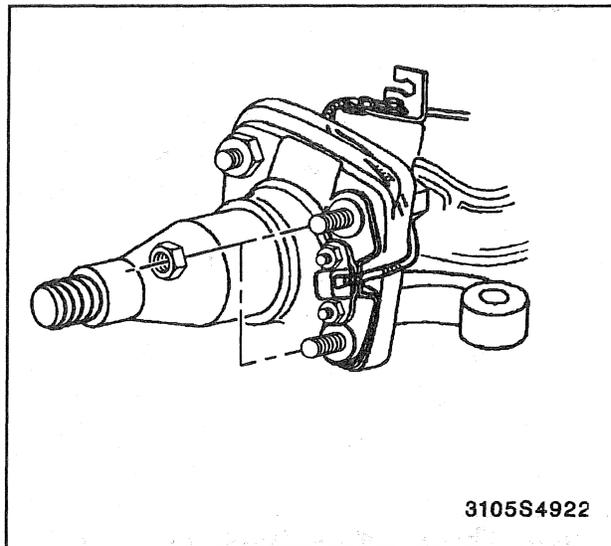

Figure 15—Front Wheel Speed Sensor (3500 HD)
**Remove or Disconnect (Figure 15)**
↔ Install or Connect (Figure 15)